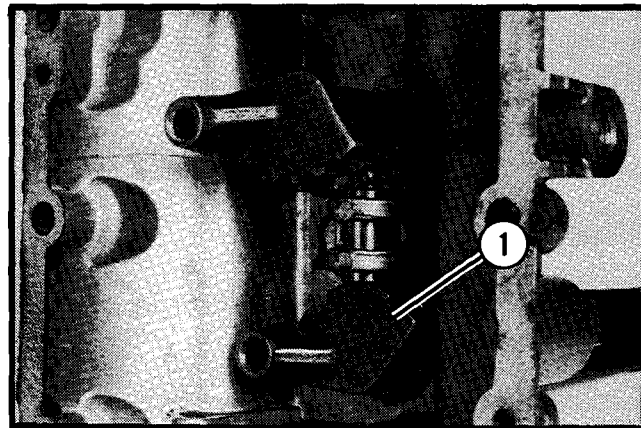

Figure 4.
2. Install the interlock sleeve, balls, spring and spacer, and position transmission half as illustrated in Figure 4.